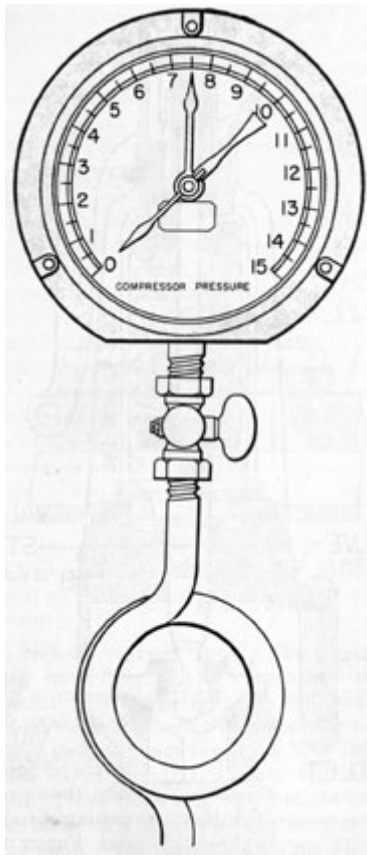

Figure 3-3. Pressure gage.
**3C1. Pressure gage.** A 0- to 15-psi pressure gage (Figure 3-3) is connected into the discharge vapor